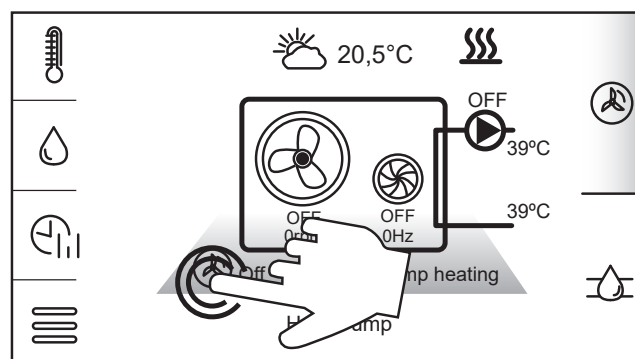

Figure 18-2: access Heat pump work mode
4. Tap the 'work mode' icon on the touchscreen display. Refer to Figure 18-2.